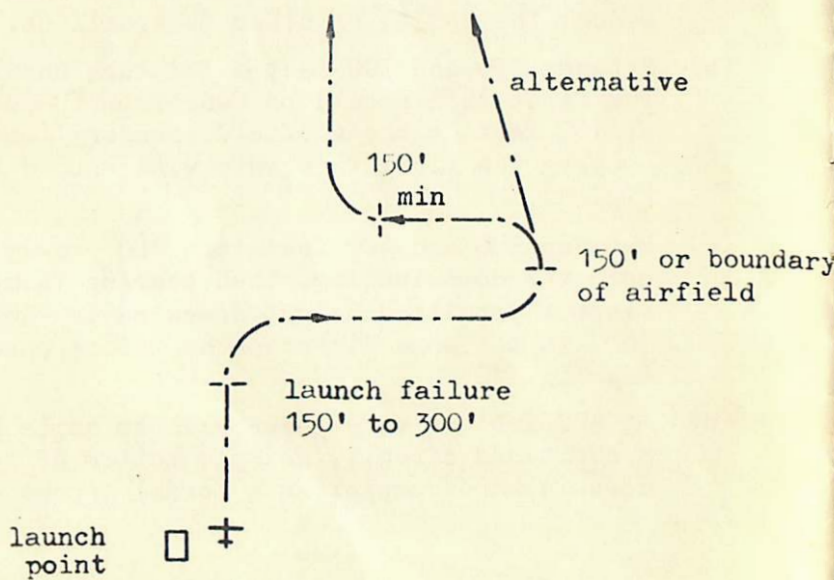

Fig 11
- (b) Between 150 and 300 feet a 'S' turn should be carried out. The first turn should be away from the other flight and at 150 feet or the airfield boundary (whichever is reached sooner) the final turn into wind should be made. See Fig. 11.